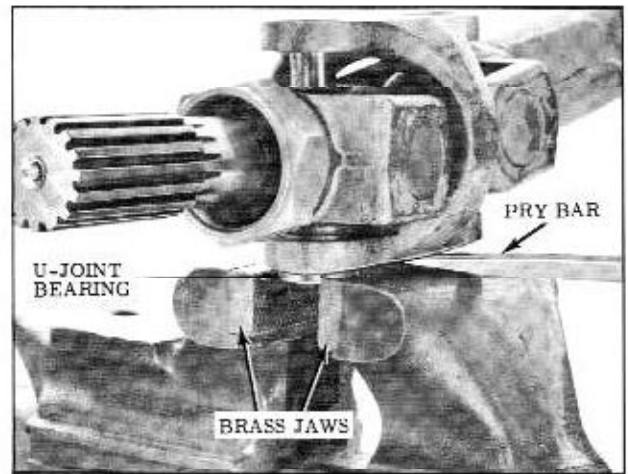

Fig. 6-37 Removal of "U" Joint Bearing
- Clamp the partially exposed bearing in a brass jawed vise, then tap or pry yoke upward (Fig. 6-37), until bearing is removed. Remove bearing from vise.